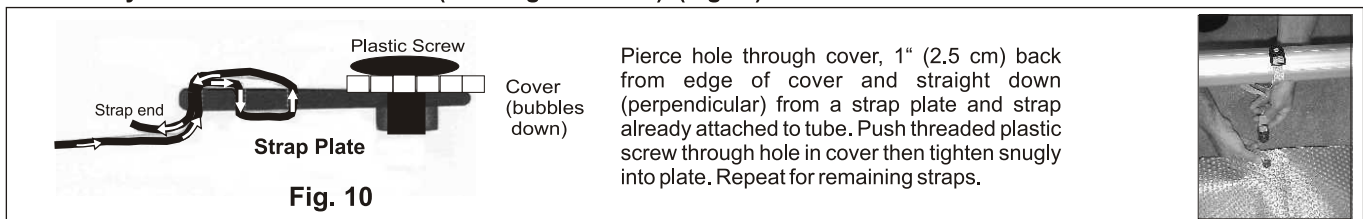
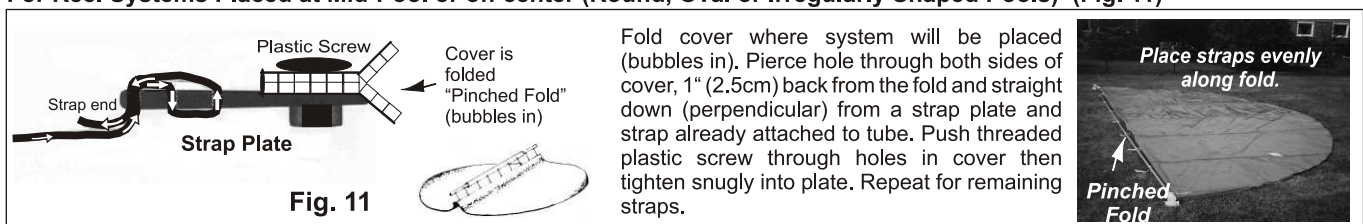

Fig. 10
Fig. 11
- Leave an extra 4" (10 cm) on cover length when installing the reel at mid-point or off center to allow for fold (see Fig. 11)
- Choose the appropriate instructions below for your pool setup. If you have determined a mid-pool placement (or off-center), it will be easier if you mark the cover then move it away from the pool and fold it (bubbles in) on a flat surface. Choose **EITHER** Fig. 10 **OR** Fig. 11.
For Reel Systems Placed at Pool End (Rectangular Pools) (Fig.10)
For Reel Systems Placed at Mid-Pool or off center (Round, Oval or Irregularly Shaped Pools) (Fig. 11)